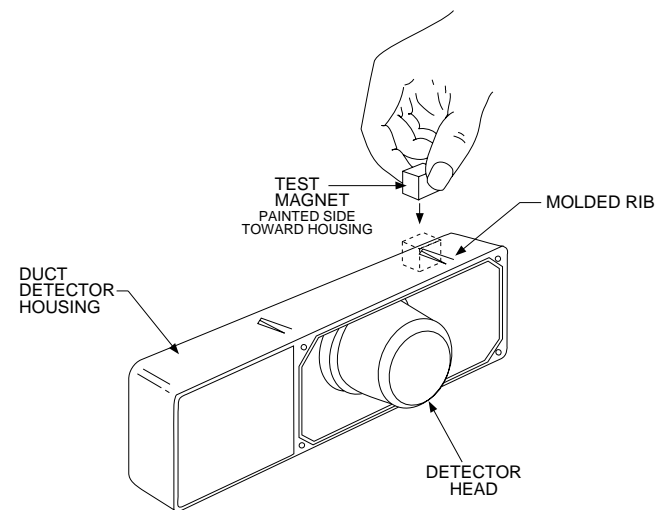

Figure 7. Testing Detector Alarm
Place the magnet in position as shown in Figure 7. The LEDs on the detector should light. Any accessory LED(s) should also light. The system control panel should also indicate an alarm.
2. Position the painted surface of the test magnet against the housing next to the rib molded onto the outside of the housing (see Figure 7).